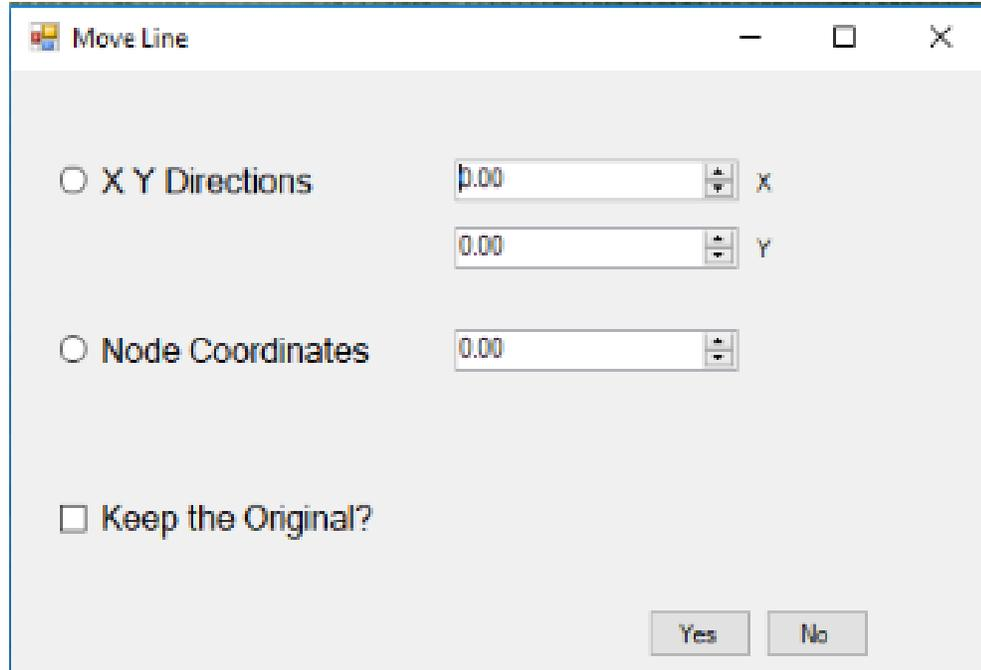

Figure 3-9. Form to move a line.
3. Click the move button . A form will appear (Figure 3-9).